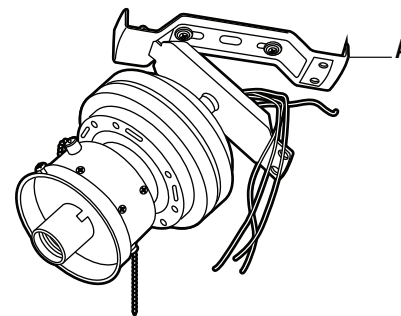

Figure 5
- Before making the electrical connections, use the square hole at one end of the supporting bar (A) to hang the fan motor (Figure 5).
- Connect the fan supply (black) wire and light supply (blue) wire to the black household wire as shown in Figure 5. Do not connect the blue wire if the light kit is not used.
- After connecting the wires, secure the wire connectors (BB) with black electrical tape and spread them apart so that the green and white wires are on one side of the outlet box and the black and blue wires are on the other side (i.e., grounded conductor on one side and hot wires on the other side).
- Turn the wire connectors (BB) upward and push the wiring into the outlet box.